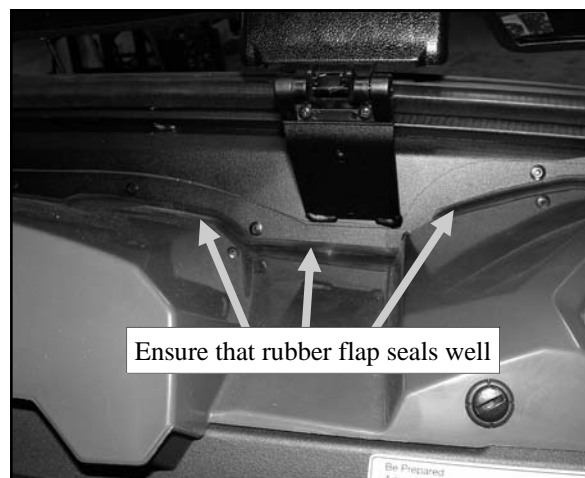

Fig. 8.3 (View of inner right side)
8.3 See fig. 8.3. Make sure the riveted rubber flap is not bunched up. Gently use a small flathead screwdriver to reposition flap and seal better if necessary.